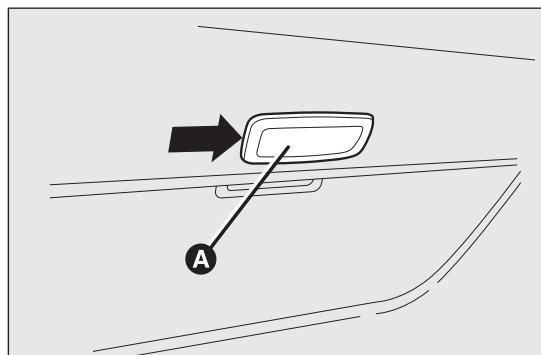

fig. 178
- ❑ operate in the point shown by the arrow and remove roof light A fig. 178;